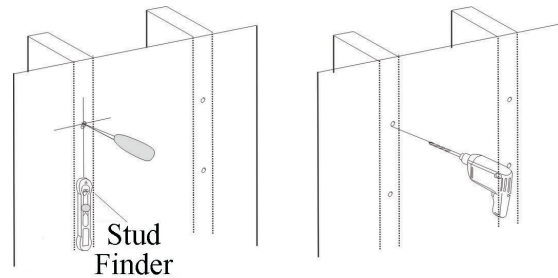

Figure 1
1. Use a high quality electronic stud finder (commercially available) to locate dead center of a wood stud and mark the location with a pencil (Figure 1).